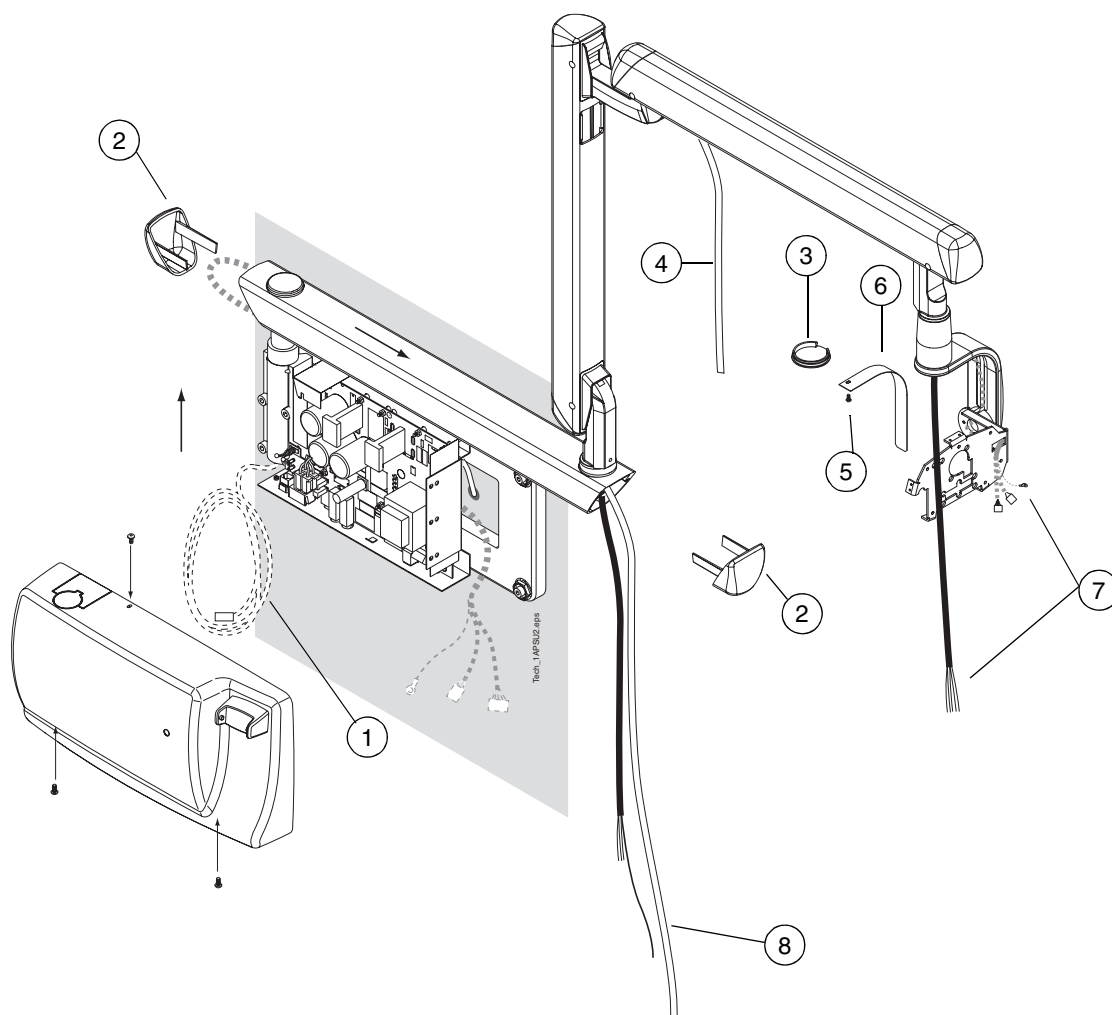

Figure 11
- b) Disconnect the arm cable connectors from the Generator PCB (terminals P1 and P8). Detach the grounding lead of the arm cable. (Fig. 11, 1).
- c) Remove the extension arm cover plugs (Fig. 11, 2).
- e) Detach the plug of the tube head support (Fig. 11, 3).
- f) Remove the cover plug from the bracket arm opening. Detach the Dixi interconnection cable from the Dixi control box OR pull the cable out from the bracket arm (Fig. 11, 4).
- g) Unscrew the M3x6 ISO 7380 screw of the tube head support (Fig. 11, 5) and remove the cover plate of the tube head support (Fig. 11, 6). The plate is attached with double-sided adhesive tape.
- h) Cut off the connectors from the tube head end of the arm cable push the cable through the support frame (Fig. 11, 7).
- i) Cut off the connectors from the generator end of the arm cable and Dixi interconnection cable. The grounding lead should be left longer than the other leads (Fig. 11, 8).